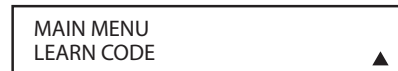

Figure 134.
12. When pressing one of the numeric keys in Step 10 or 11 causes the device being programmed to turn back on, follow the instructions shown in **Figure 134** and press the **Set Button**  within 5 seconds of the device turning on. After you press the **Set Button** , the top line of the LCD display will read **SAVING...** and then the word **SAVED** will flash four times in the center of the bottom line.
2. The remote's **MAIN MENU** message will appear in the LCD display and the **Set Button** will remain illuminated in red. Press the **Navigation Button** once so that **LEARN CODE** appears on the bottom line of the LCD screen, as shown in **Figure 134**.